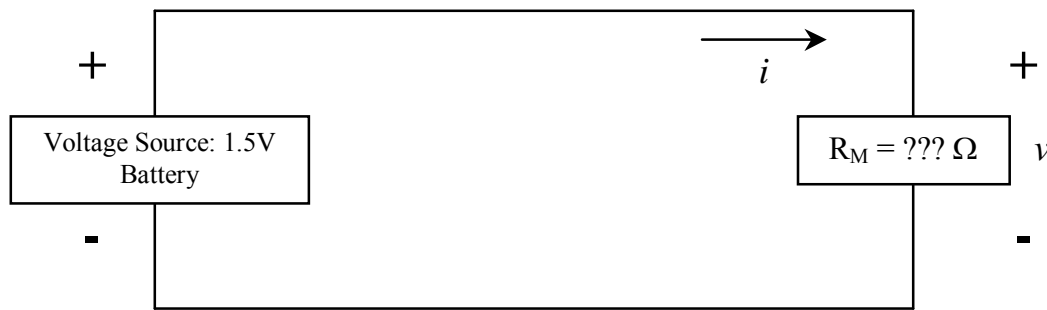

Figure P2-1 - Circuit for Procedure 2.a.
- a. (2 points) Draw the circuit schematic diagram for the circuit in Figure P2-1 using standard symbols for resistor and battery.
- b. (1 points) Construct the circuit in Figure P2-1 on your breadboard with R_M being the mystery resistor. See below for construction hints. Measure the voltage v across R_M . Record the value.